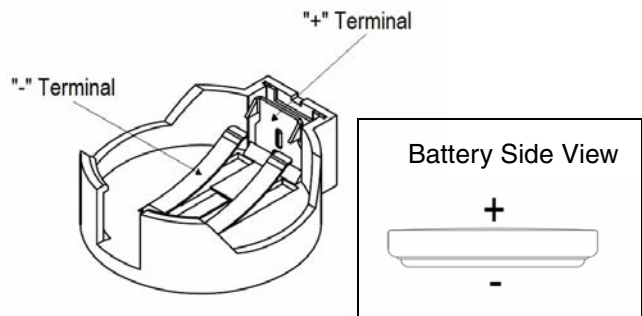

FIG. 2
5. Insert the new battery with the negative side of the battery position to the bottom of the battery holder. Press the battery firmly down until the positive terminal clips above the battery. See FIG. 2 (Battery Side View) to identify the negative and positive sides of the battery.